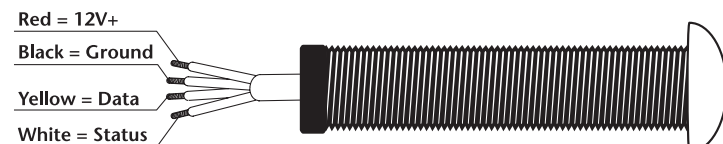

Figure 2 Wiring legend
3. Run the CS110's IR cable. Label the cable for future reference (**Figure 2**). The CS110 is supplied with 10' of pre-stripped IR cable. The IR cable may be shortened or lengthened as needed. If you want to make the CS110's cable shorter, use a pair of wire cutters to cut the cable to the desired length. The IR cable may be lengthened by splicing it to a recommended IR cable (See Installation Considerations—Type of Cable). You may splice the CS110 cable to another cable by soldering or crimping the connections.